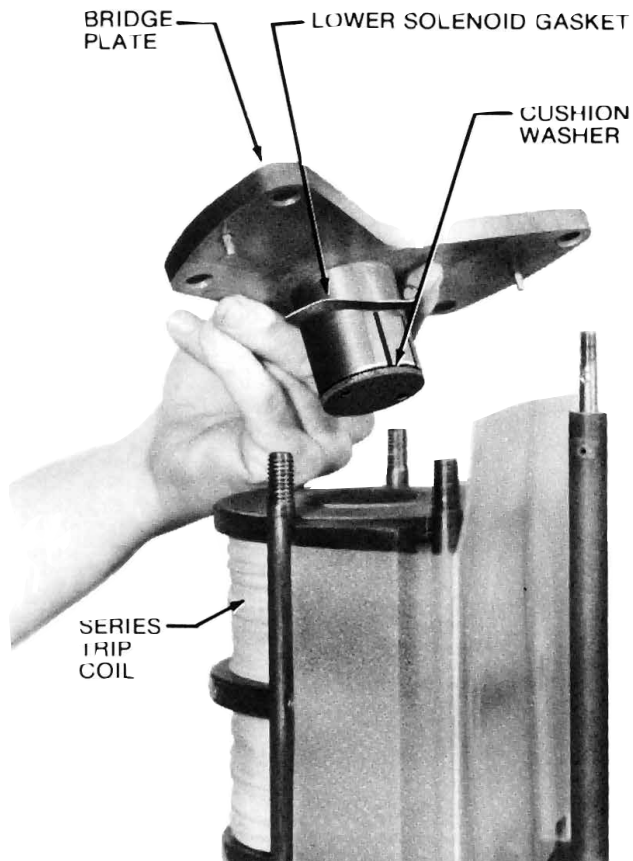

Figure 14. Bridge plate removal
3. Using a 3/4-in. box wrench, remove four hexnuts that secure the solenoid bridge plate. Lift this plate off as shown in Figure 14. Note that a red cushion washer is attached to the plate.